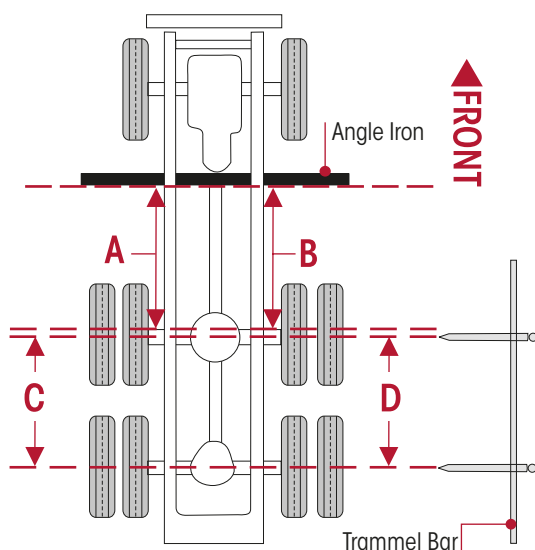
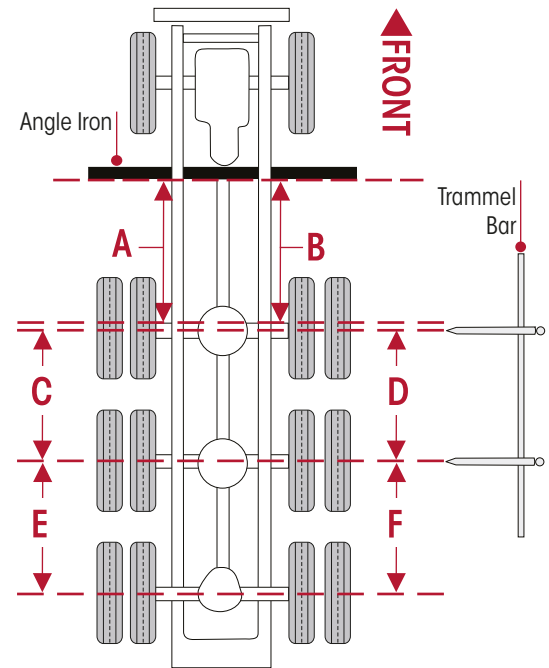

Figure 32: Two Drive Axle Alignment
Figure 33: Three Drive Axle Alignment
8. If axle alignment equipment is not available, using C-clamps, securely clamp a 2-metre length of straight bar stock or angle iron across the lower frame flange as shown in Figure 32 and Figure 33. Select a location for the angle iron as far forward of the drive axle as possible where components will not interfere.
10. Using a measuring tape, measure from the straight edge to the forward face of the front drive axle arms at the centreline on both sides of the vehicle, refer A and B as shown in Figure 32 and Figure 33.
12. Using a trammel bar, measure the distance from the spindle centre of the front drive axle to the spindle centre of the second drive axle on both sides of the vehicle, refer C and D as shown in Figure 32 and Figure 33.
14. Repeat Steps 12 and 13 for any remaining axle(s). For a triaxle this will be measurements E and F in Figure 33. Be sure all remaining drive and auxiliary axles are aligned relative to the front drive axle.